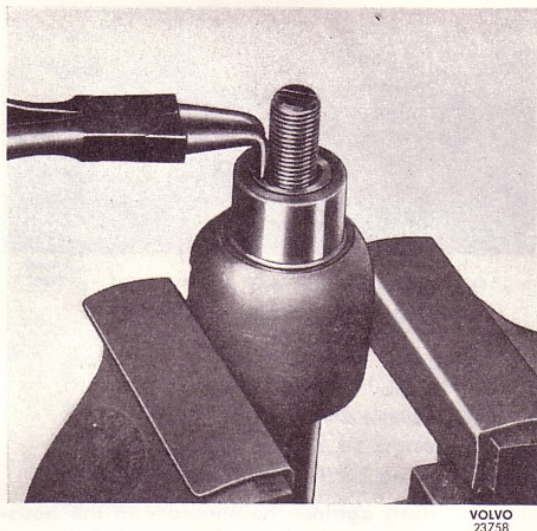

Fig. 33. Removing the adjusting screw.
3. Remove the bolts and lower cover (17). Take care of the shims (20).
4. Carefully knock the steering column (10) so that the outer race of the lower bearing releases from the housing. Take out the steering column (10) with bolt and bearing.
5. Slacken the locknut (3) and screw the adjusting screw (2) out of the cover. The adjusting screw can be removed from the pitman arm shaft after the circlip has been taken off, see Fig. 33.